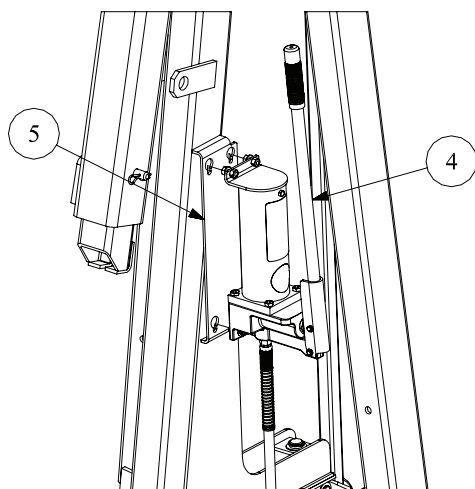

Figure 2
3. Align the pump [#4] with the keyhole slots in the bracket [#5] on the side of the crane as shown in Figure 2.